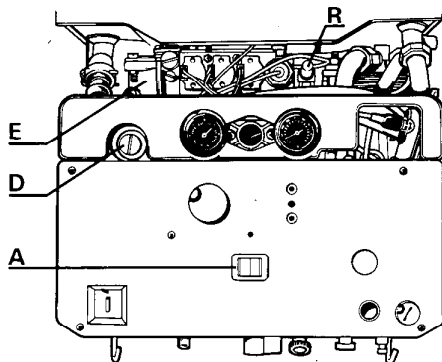
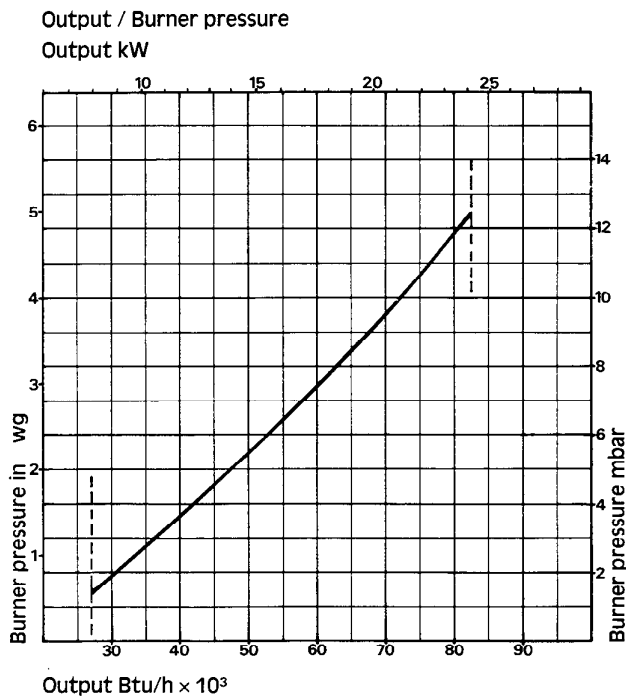

Fig. 35
Fig. 37
- 4) Vent automatic air separator/air purger by loosening screw (fig. 35) (E) two complete turns from closed position.
**N.B.** Leave screw (E) in open position.
- 8) Manually check pump is free to rotate. Remove cap (fig. 35 D).
- 9) Switch to HOT WATER + CENTRAL HEATING on selector switch (A) (fig. 35) switch position (II).
- 11) Isolate water supply and drain boiler by disconnecting fill system and opening the drain valve (F). This is incorporated in the safety valve and is achieved by screwing down the head until the valve lifts. Open all low level drain cocks.
- 12) Remove filter in the return isolating valve (C) and inspect for any installation debris, see section (7.6) to clean and replace.
- 1) Switch boiler to the off (O) central position, see section 6.3 (fig. 35).
- 2) Remove the pressure test point screw - (B) and connect a suitable pressure gauge.
- 3) Remove the hexagonal cap from gas rate adjuster exposing the adjusting screw (C).
- 4) Switch the boiler to hot water and central heating (II) and check that any fitted external controls are calling for heat.
- 5) Adjust. Setting pressures are given in graph figs. 37 and 38. The pressure will be reduced by clockwise movement of screw, increased by anticlockwise movement. Now select hot water only, adjust temperature knob, see fig. 4 (25), to minimum and open the largest volume draw-off tap. The gas pressure should now be the maximum as indicated in Technical Data. Now reduce the water flow to minimum and check that the burner reduces its output, this will take a short period of time.
- 6) Switch boiler off (O). Remove pressure gauge and replace test point screw and gas rate adjuster hexagon cap. Check for gas soundness around screw.